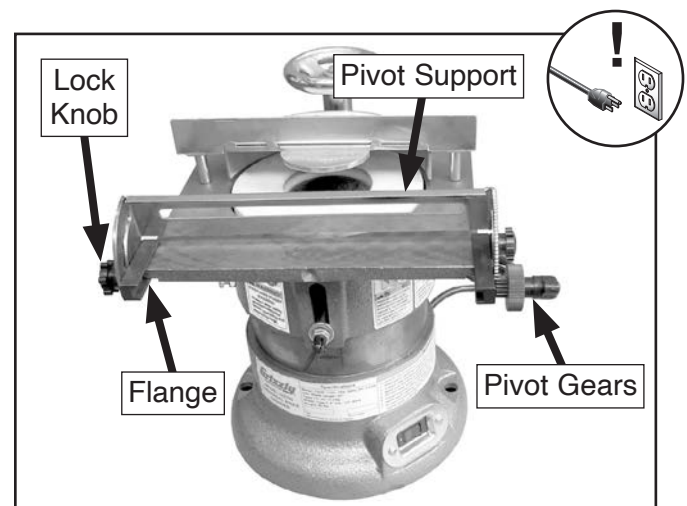

Figure 13. Pivot support installed.
2. Loosen (4) lock knobs on pivot support, then slide support flanges onto table, as shown in **Figure 13**.